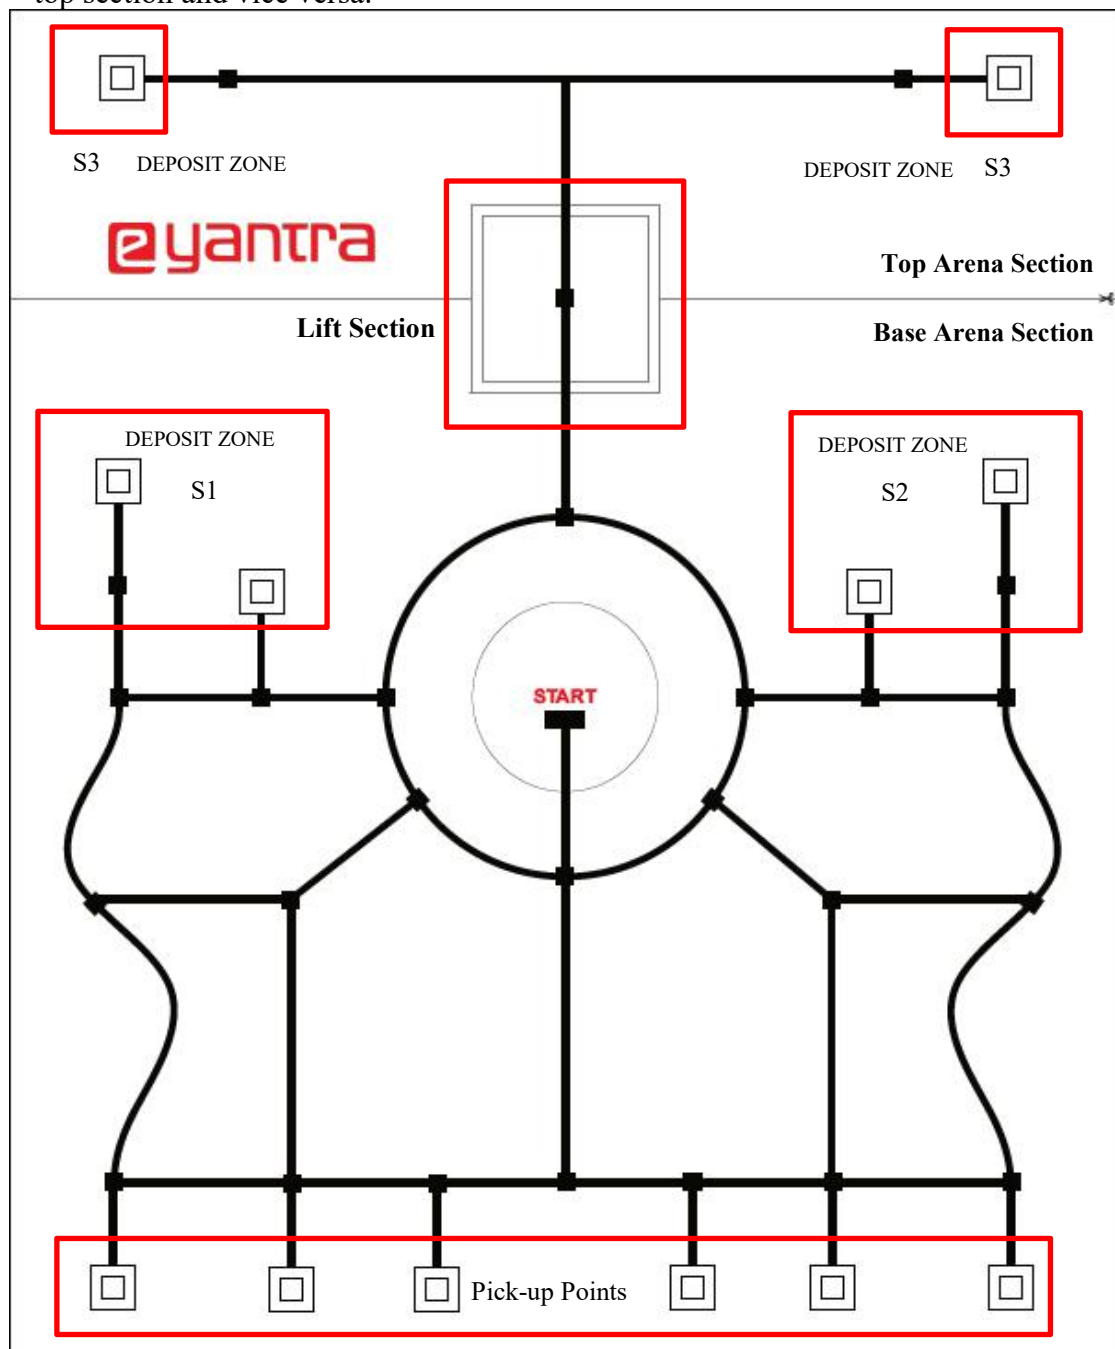

Figure 1: Arena
In this theme, a robot and a lift mechanism is designed that depicts Squirrel that sorts, carries and places Nuts at different places on land and in trees. The challenges in this theme include Path Planning, building a Lift Mechanism and Simulation. A configuration image is given to teams. The arena consists of thermocol Nuts of different colors that are placed randomly. The robot traverses the arena to pick up a Nut and place it in designated sections S1 or S2. The team needs to make a lift mechanism to lift the bot to certain height to place Nuts at the designated section S3. Refer to Figure 1.
- ❖ The arena is made of circular, curved and straight path and the Start position for the robot as shown in Figure 1.
The arena for this theme is an abstraction of an area in the woods or a field where such activities take place. The DEPOSIT ZONES are indicated as S1, S2 and S3 (Refer to Table 1). The robot will follow the black line on the arena. There will be 6 pick-up points marked on Figure 1. These pick-up points are fixed and will not be altered. These pick-up points may or may not contain a Nut.
The complete arena is depicted in Figure 1.
- There are three DEPOSIT ZONES S1, S2 and S3 shown in Table 1. The numbering is the same throughout the competition. Refer to Figure 1.